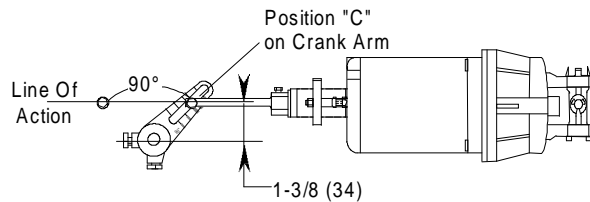

Figure 7: Crank Arm Position
- Temporarily set the swivel head bearing of the actuator onto the pivot post of the auxiliary bracket, and align the linkage point for 90° rotation at a 2-3/4 inch (70 mm) stroke. Try to maintain the factory settings for the crank arm (1-15/16 inch radius or point "C" on the crank arm) and the piston rod length. The actuator line of action (Figure 7) should form a straight line through the ball joint axis at the beginning and end of stroke. Orient the crank arm or adjust the extension rod length if necessary.